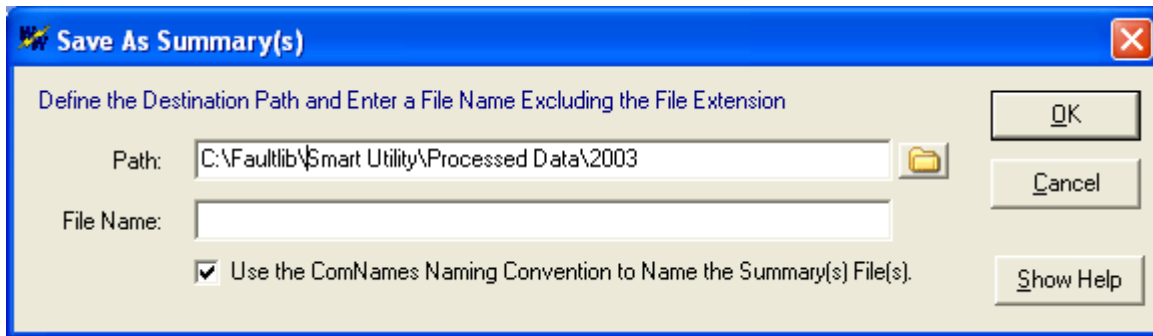

Figure 4.23 Summary Destination Dialog
- **Process & Create Summaries** – The process & create summaries will process all the marked *.CSV files in the active directory and create device summary ASCII files for each file processed. A folder destination dialog is displayed. Refer to Figure 4.23. Select the destination folder and define the names for the files. The files are named using the IEEE PSRC Long file naming convention when the “Use ComName” option is checked.